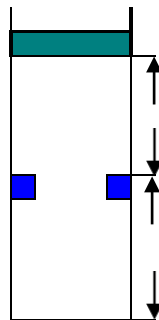

Figure 42. P3.4.
3.4 A piston cylinder device shown in Figure 42, initially contains air at 150kPa, 400°C . The setup is allowed to cool to the ambient temperature of 20°C . (a) Is the piston resting on the stops. What is the final pressure in the cylinder? (b) What is the specific work done by the air during this process.